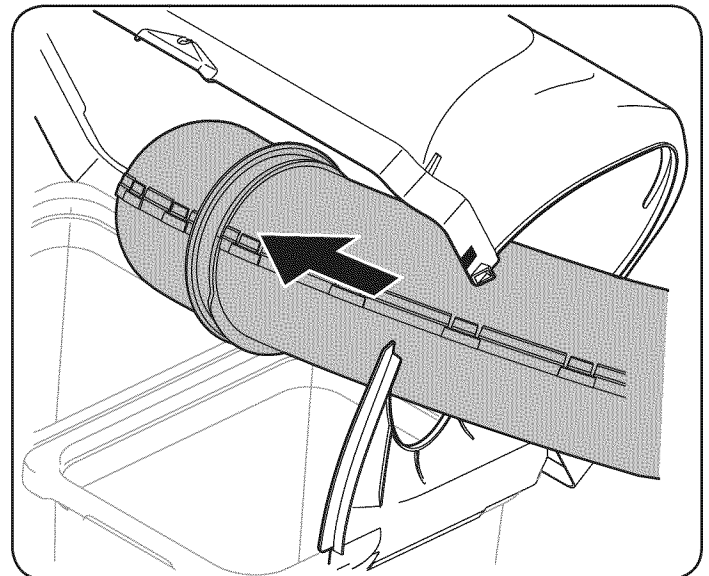

Figure 23
2. With the grass catcher cover open, install the upper discharge chute through the discharge chute opening, as seen in Figure 23.